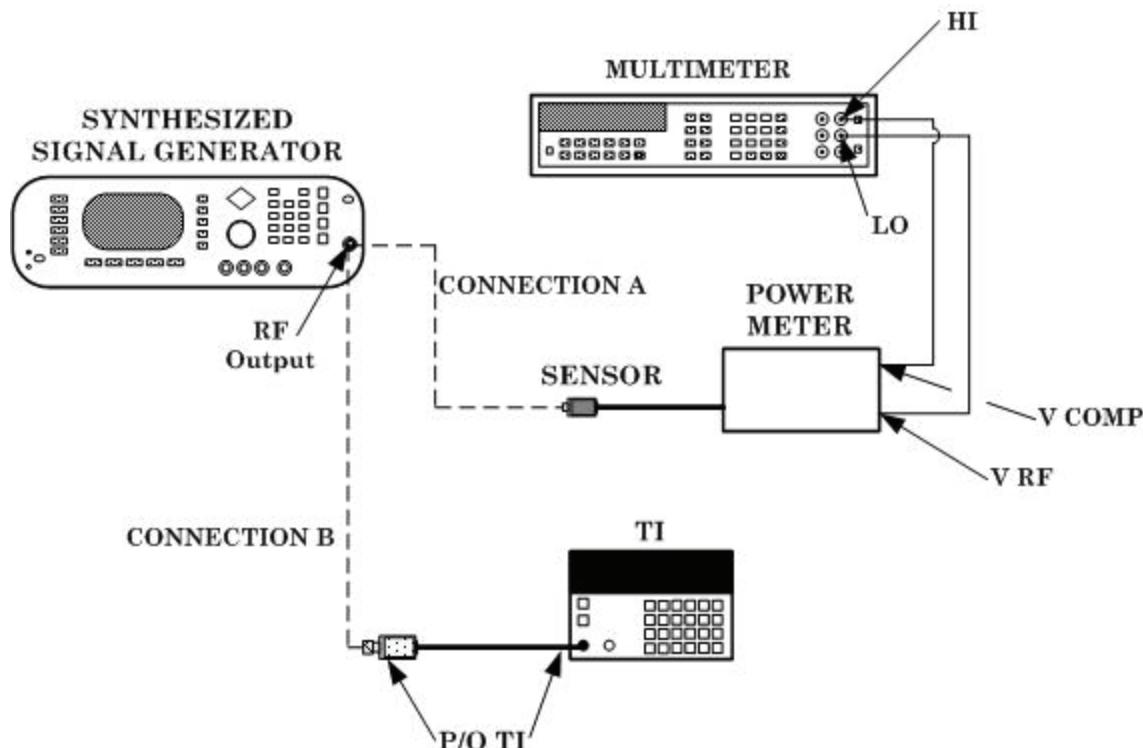

Figure 6. Frequency response - equipment setup.
- (1) Press pushbuttons as listed in paragraph **9 a** (1) above.
- (2) Replace thermistor mount H75-478A with thermistor mount 8478B and allow warm-up of power meter.
- (3) Connect equipment as shown in figure 6, CONNECTION A.
- (4) Adjust synthesized signal generator for a 1 GHz, 1 mW output as indicated on power meter.
- (5) Calculate power using precision power measurement technique listed in paragraph **8 a** (7) through (12) above. Record power level.
- (6) Press **MODE PWR, X** (where **X** is the frequency being measured) and **CAL FAC GHz** pushbuttons.
(7) Connect equipment as shown in figure 6, CONNECTION B. If display does not indicate within 3 percent of power calculated in (5) above, perform **b** below.
(8) Repeat technique of (3) through (7) above for frequencies and tolerances listed in table 10.
(1) Connect equipment as shown in figure 6, CONNECTION A.
(2) Adjust synthesized signal generator for a 1 GHz, 1 mW output; calculate using precision power measurement technique described in paragraph 8a(7) through (12) above.
(3) Connect equipment as shown in figure 6, CONNECTION B.
(4) Press **MODE, dB, 0, CAL FAC GHz, 0, CAL FAC dB** pushbuttons.
(5) Record difference in TI display and 00.00 dBm actual.